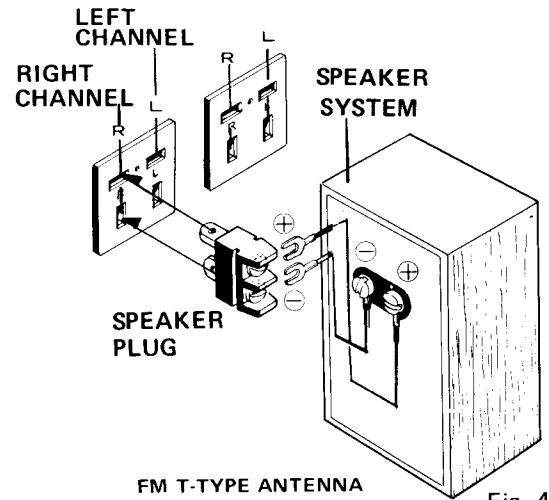

Fig. 4
- As shown in Fig. 4, connect the lead wires of the speaker system to the supplied speaker plugs. Be sure to observe the correct polarity and to cause no short circuit between  $\oplus$  and  $\ominus$ .
- For the second (third) pair of speakers, use the B (C) speaker sockets. Connect in the same way as for the first pair.